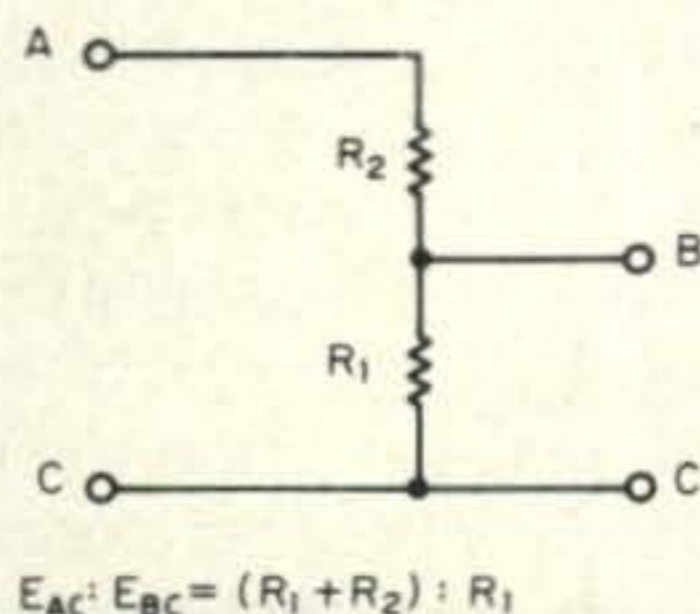
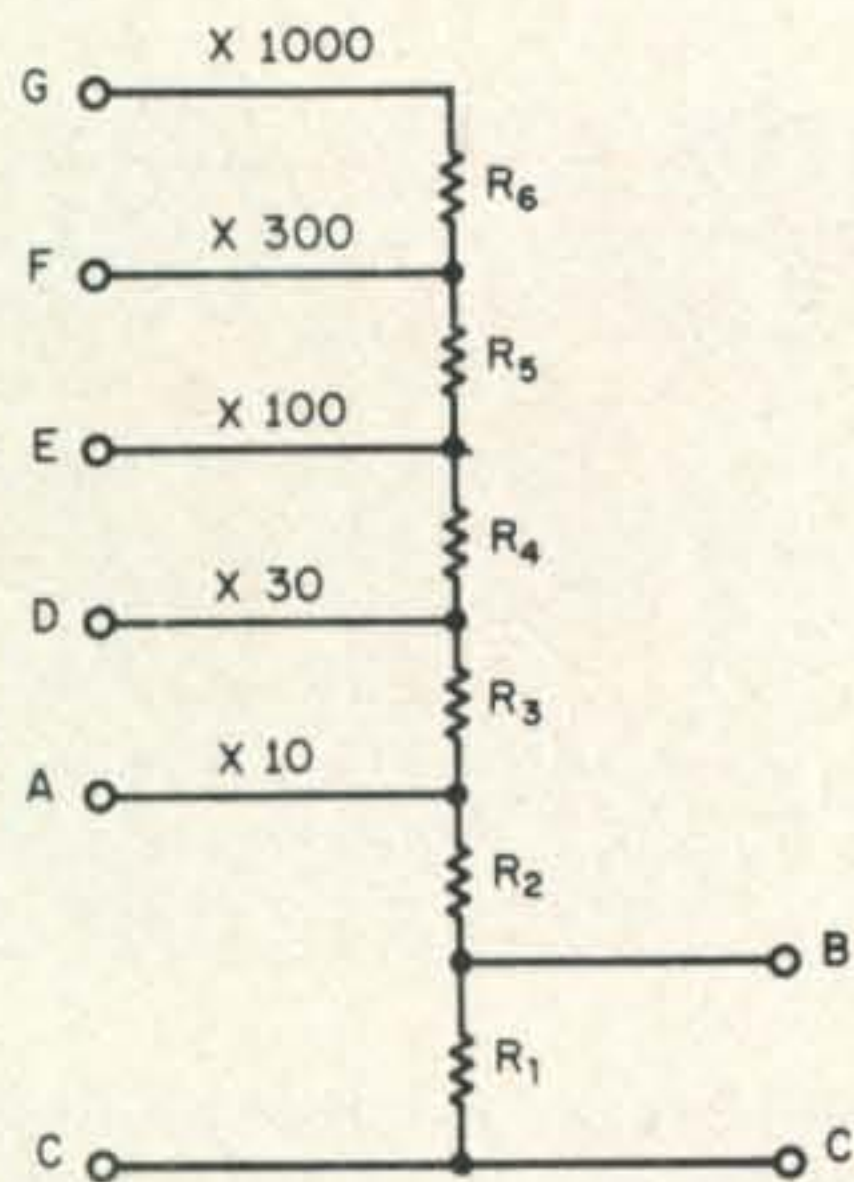

Fig. 4—Basic circuit of the Volt Box, a precision voltage divider.
Fig. 5—Circuit of a practical Volt Box. Calculation of the various resistance values is covered in the text.
in power supply circuits to provide proper voltage for plate and screen and bias circuits. We used the required amplitudes of voltage and current in the circuits to calculate, by means of Ohm's and Kirchoff's Laws, the values of resistance to be used. A "Volt Box" divider is somewhat different in that we are going to use a ratio of resistances, one to another so that within certain limitations we can divide one voltage by some constant. Let us examine fig. 4.
From equation (2) in fig. 4, the ratio of E_{AC} to E_{BC} (E_{in} to E_{out}) can be chosen to suit your needs. The ratio will determine the values of R_1 and R_2 . However, you should consider the loading effect on the measured circuit¹ and choose an "ohms per volt" that best suits your needs. Remember that the resistance between points A and C will be in parallel with the circuit being measured.
A divider made of two resistors as in fig. 4 makes this adjustment reasonably simple. You start with R_1 and make R_2 9 times that of R_1 . However, if we were to build a Volt Box as in fig. 5 you can see that our adjustment problem for R_3 , R_4 , R_5 and R_6 becomes more complex because of the need for maintaining the ratios between the resistors. Equation (2) still holds for the circuit in fig. 5. It will only be necessary to make substitutions for the terms within the brackets. For example, let us put the unknown voltage between points D and C and connect the Potentiometer across points B and C (and the Potentiometer is *always* connected across points B and C). Since point D is labelled "x 30", we will multiply the reading on the Potentiometer by 30 to give us the unknown voltage, or, we will *divide* the input voltage by 30 to reduce it to a level measurable on the Potentiometer. Therefore the equation is changed to read as follows: